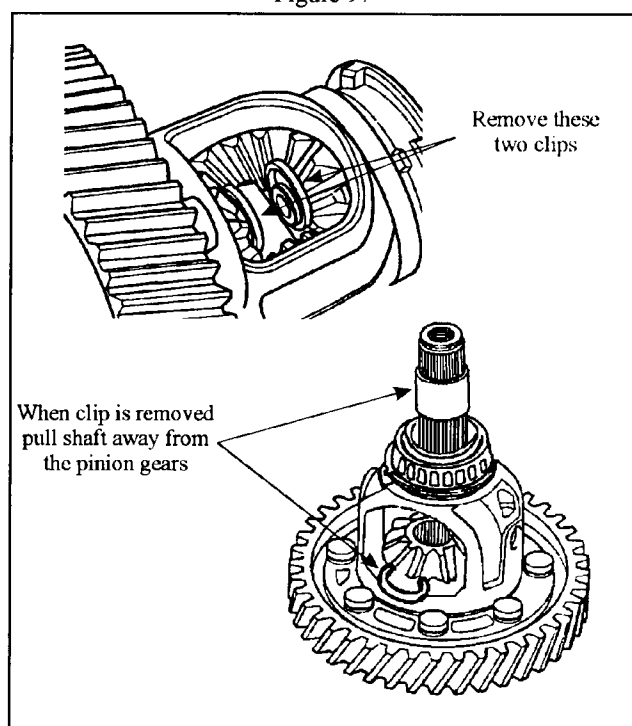

Figure 98
18. Using two screwdrivers, remove the clips that hold the axle drive shafts in the pinion gears. When this is done remove the shafts and the carrier from the transaxle housing (See Figure 98).